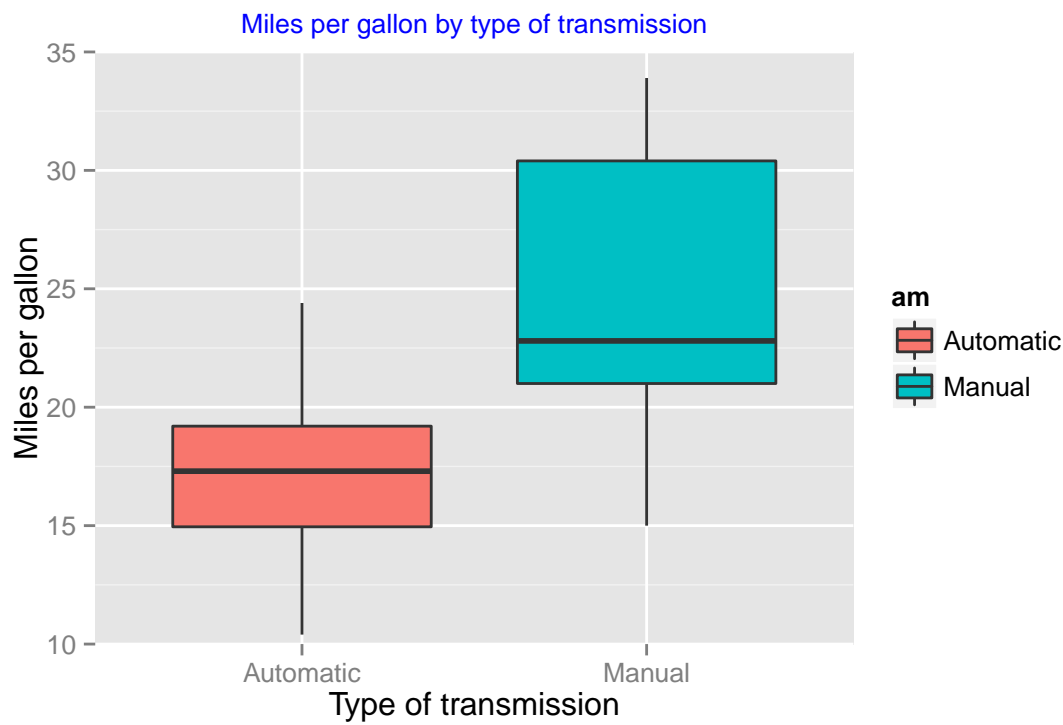

Figure 1: Box plot of MPG vs. transmission type
**Figure 1** shows us where the middle 50% of the data can be found and the min/max values of mpg for each submission type lies. We will also see that the mpg-values of the manual transmission are right skewed. This means the values for lower mpg's are closer together.
Please see **R-Code output 1** for the result of the code above. As we see the p-value is much lower than 0.05 ( $0.001374 < 0.05$ ) and the confidence interval don't contains zero. So we should reject the Null-hypothesis  $H_0$  that the means are equal. So we can conclude there is a difference between automatic and manual transmission as the box plot in **Figure 1** already turned out.